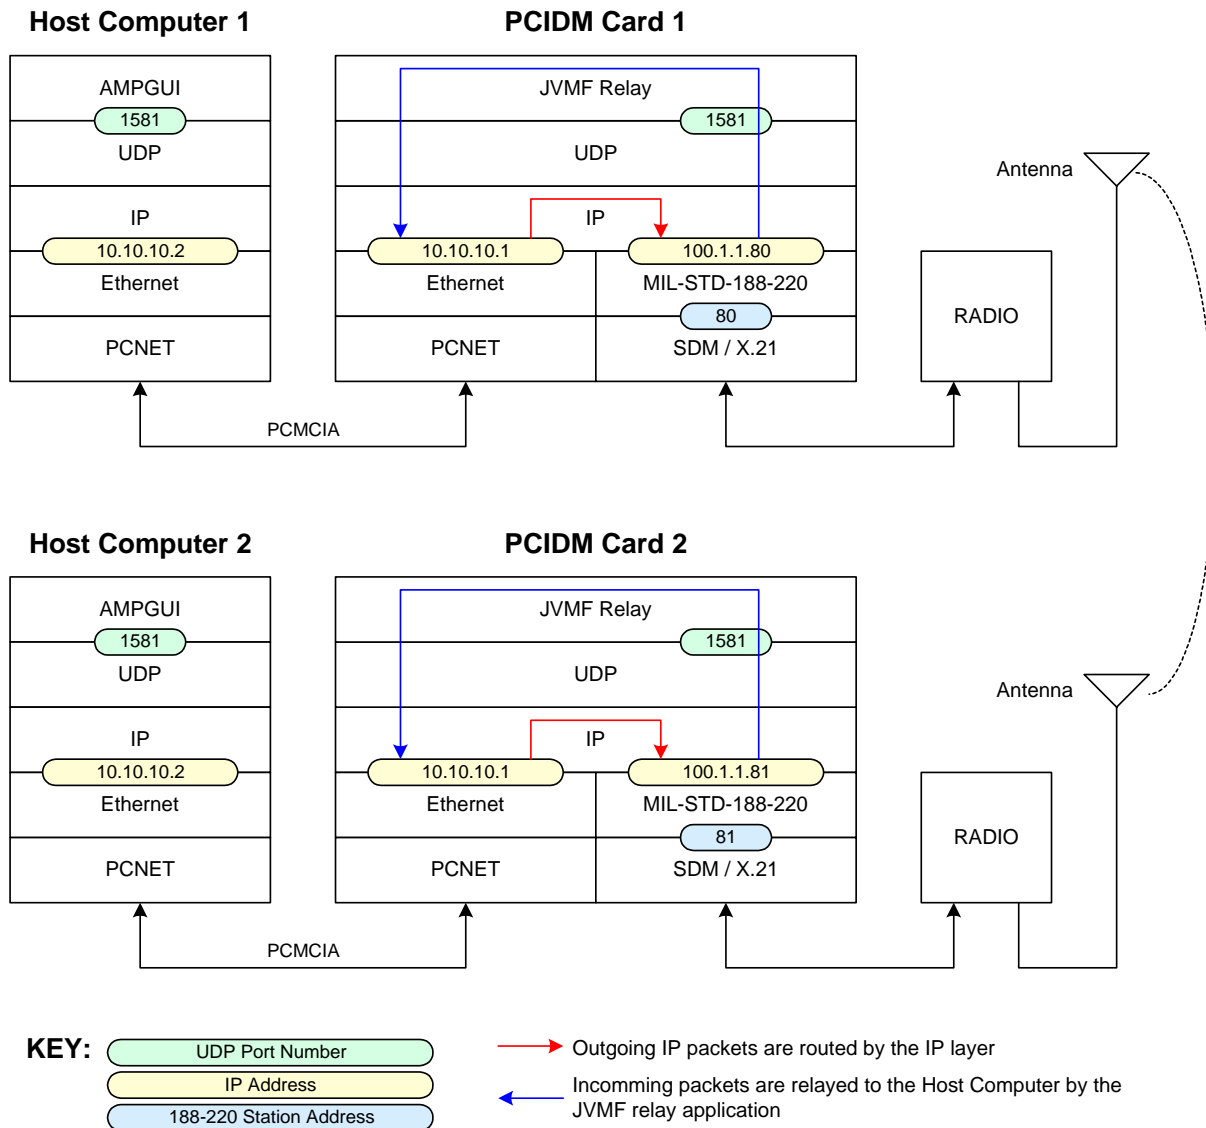

Figure 11: Static Internet Configuration Diagram
The diagram shown in Figure 11 shows two PCIDM cards configured for Static Internet (SI). Static Internet uses static IP routes and MIL-STD-188-220 Type-2 with 7 bit station addresses.